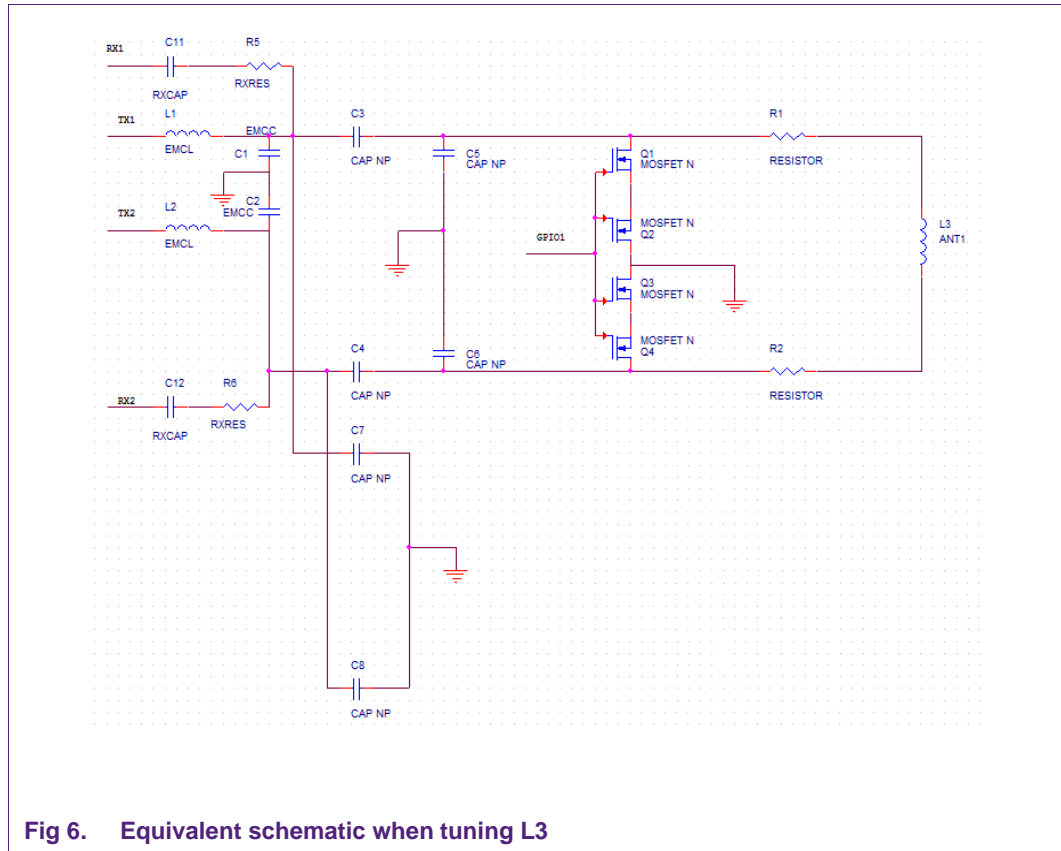

Fig 6. Equivalent schematic when tuning L3
In figure 6 capacitors C7 and C8 go in parallel to the EMC capacitors C1 and C2 when the bottom antenna is switched out of the circuit. This increases the EMC capacitance and will therefore lower the resonance frequency of the EMC filter. This must be taken into account when tuning each antenna with this topology. With the bottom antenna in the disabled state the series and parallel capacitors of the top antenna can be adjusted to achieve the desired impedance at 13.56 MHz. After that the top antenna is switched into the disabled state and tuning procedure repeated for the bottom antenna (if both antennas have the same layout then the tuning values should be very similar).
- Keep the capacitance values of the EMC capacitors (C1 and C2 in Figure 6) relatively low, since the series capacitors (C7 and C8 in Figure 6) go in parallel during the switching and increase the overall capacitance.
- Keep the capacitance values of the series capacitors (C3, C4, C7, and C8 in Figure 6) low if possible so they do not influence the EMC resonance a great deal.